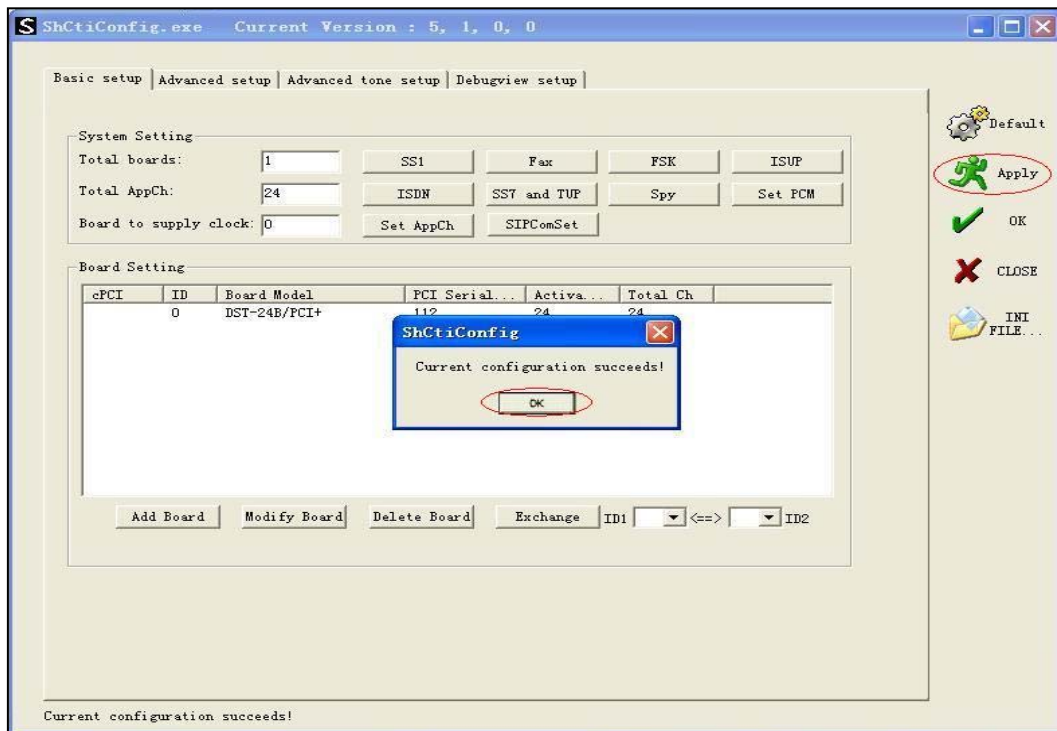

Figure 2-13
Step 10 : Finally click on 'Apply' to apply the settings made above and the message 'Current configuration succeeds' will pop up as shown in Figure 2-13 if all settings are done properly.